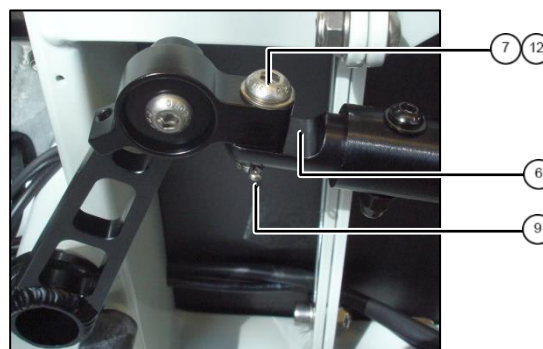

fig. 6: rear linkage end
7. Stick bolt ⑦ with washer ⑫ through hinge block. Apply threadlock adhesive and turn bolt into rear linkage end ⑩ (see fig. 6). **Tightening torque 8Nm.**
8. Install splint ⑩.